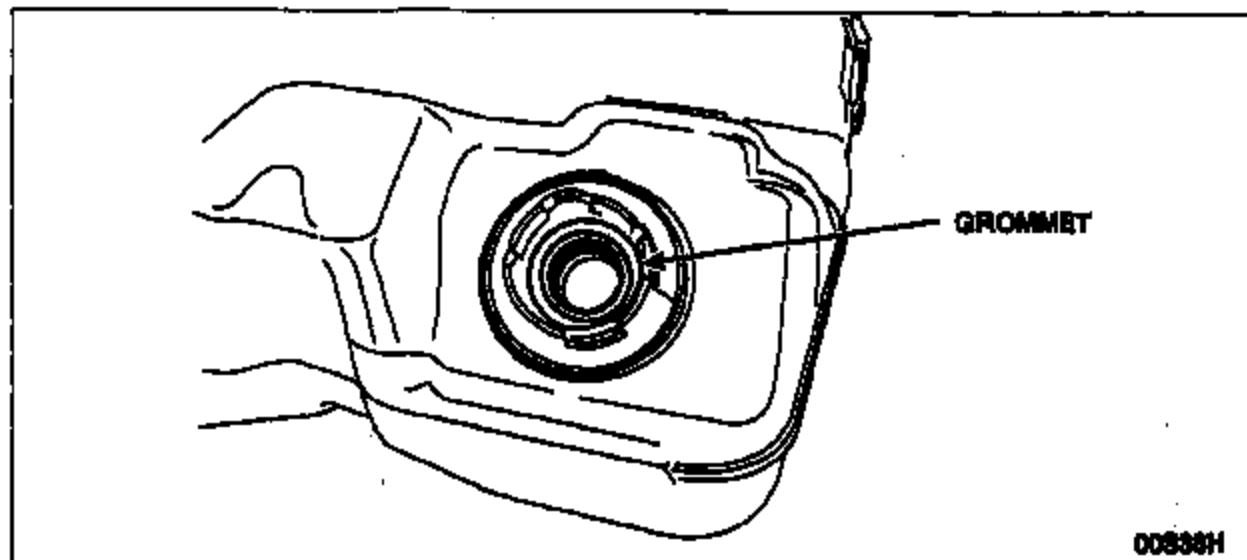

FIGURE 8
14. Remove the fuel filler neck grommet. See Figure 8.